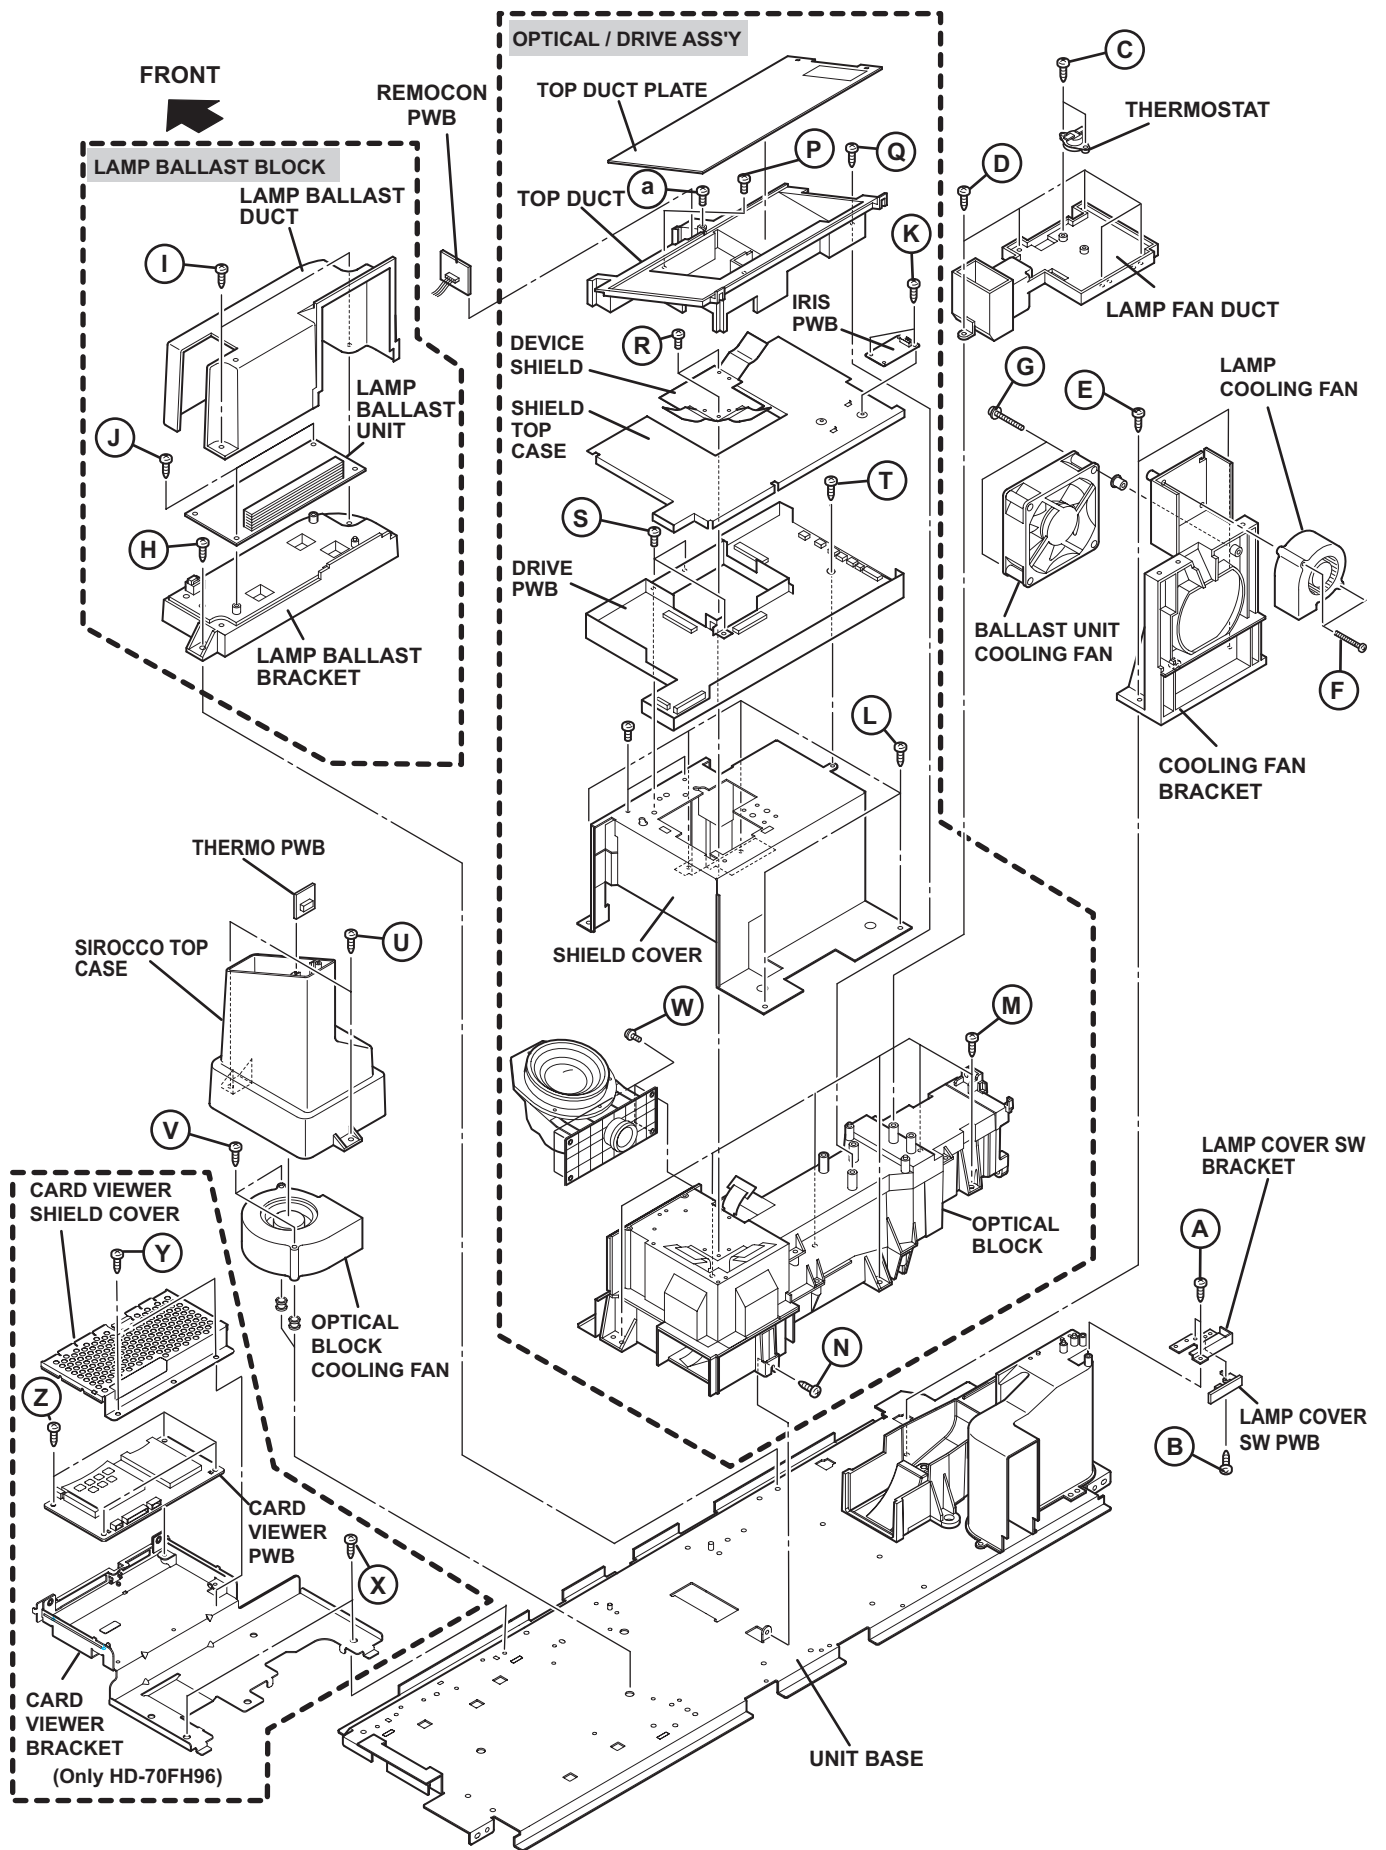

Fig.8
3.1.4.16 REMOVING THE BALLAST UNIT COOLING FAN (Fig.8)
- (1) Remove the 2 screws [G].
- (2) Remove the BALLAST UNIT COOLING FAN.
3.1.4.17 REMOVING THE LAMP BALLAST BLOCK (Fig.8)
3.1.4.18 REMOVING THE IRIS PWB (Fig.8)
- (1) Remove the 2 screws [K].
- (2) Remove the IRIS PWB.
3.1.4.19 REMOVING THE REMOCON PWB(Fig.8)
- (1) Remove the 1 screws [a].
- (2) Remove the REMOCON PWB.
3.1.4.20 REMOVING THE OPTICAL / DRIVE ASS'Y (Fig.8)
3.1.4.21 REMOVING THE DRIVE PWB (Fig.8)
3.1.4.22 REMOVING THE OPTICAL BLOCK COOLING FAN (Fig.8)
3.1.4.23 REMOVING THE PROJECTION LAMP(Fig.8)
- (1) Remove the 4 screws [W].
- (2) Remove the PROJECTION LAMP.
3.1.4.24 REMOVING THE CARD VIEWER PWB [HD-70FH96] (Fig.8)